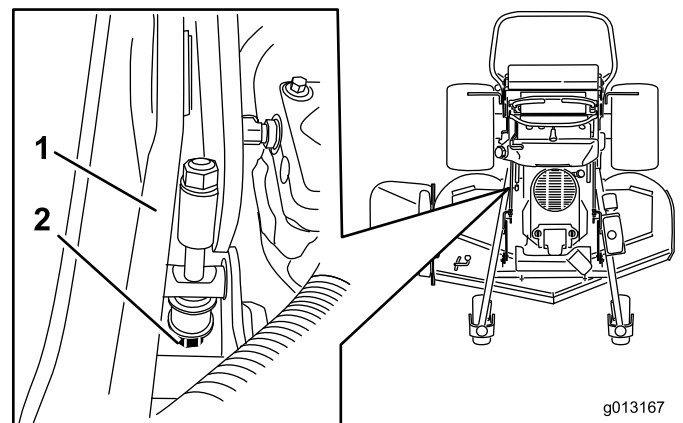

Figure 87
5. If it does not measure correctly, locate the height-of-cut rod on the right side of the machine (Figure 87).
6. Adjust the adjustment bolt until the blade tips match 3 inches (7.6 cm) (Figure 87).